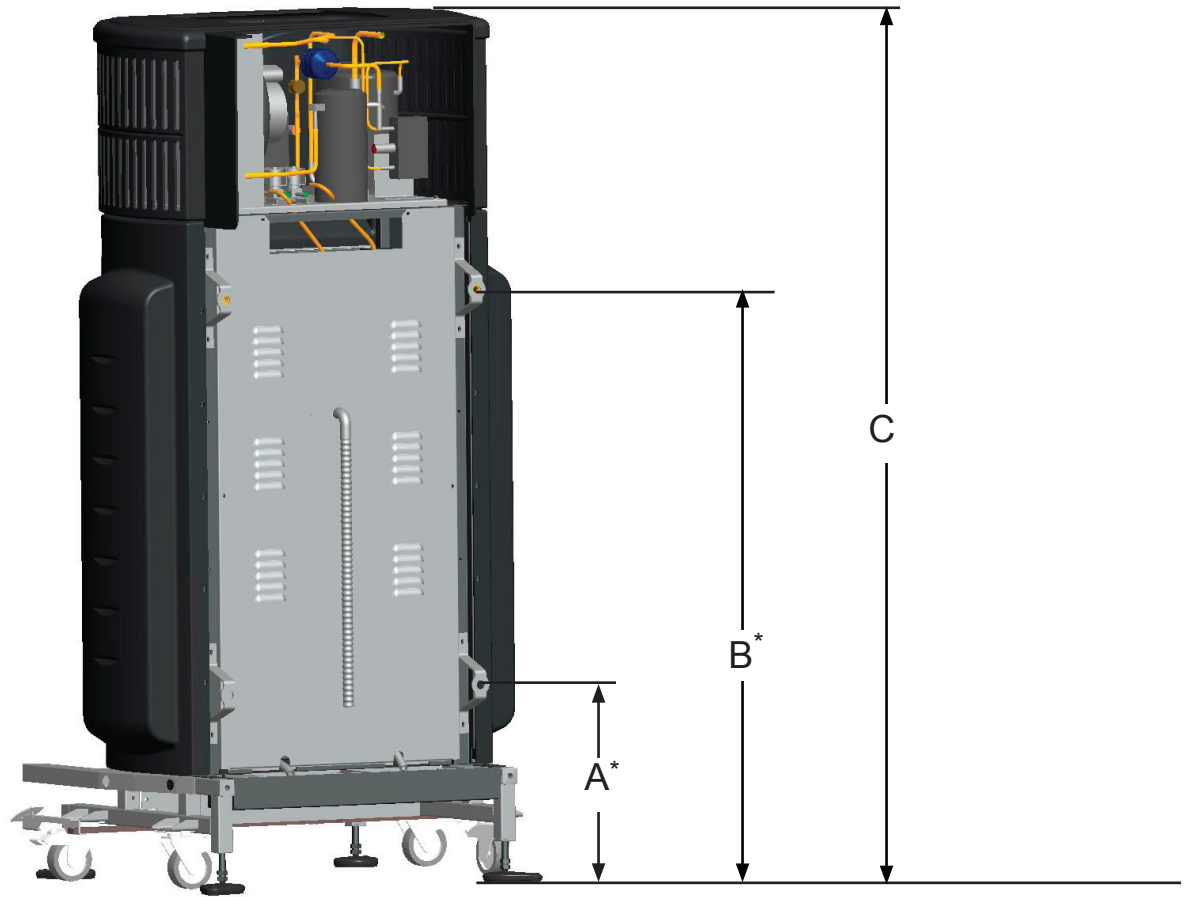

FIGURE 3-3
This "Unistrut" assembly will serve as an attachment point for the wall mounting hardware detailed in Figure 3-3.
Step 3: Assemble mounting hardware to support brackets located at the rear of Docking Station and fasten to "Unistrut" support channel assembly previously described and detailed in Figure 3-3.